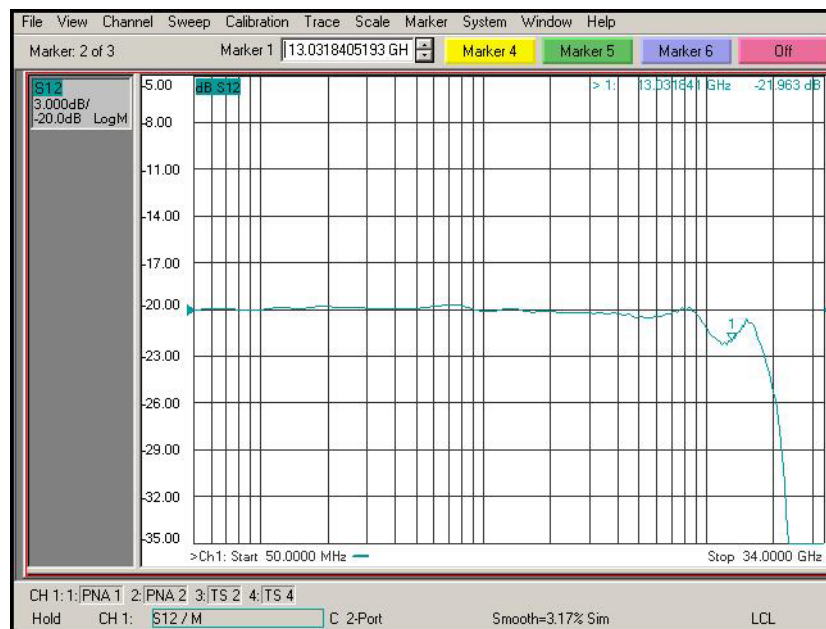

Figure 95 De-Embedded V_{out}/V_{in} Response of the Probe
- b Again, adjust the “Reference Level” in the scale menu so the 50 MHz point is at center screen. The display should look like **Figure 95** on page 114.